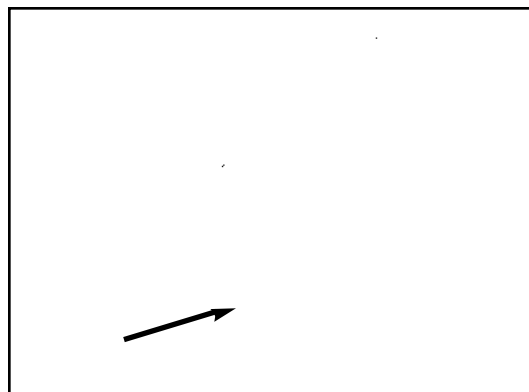

Figure 46
4. Raise machine until stiff leg is off floor and swing stiff leg assembly out of the way. (See Figures 46 and 47.)